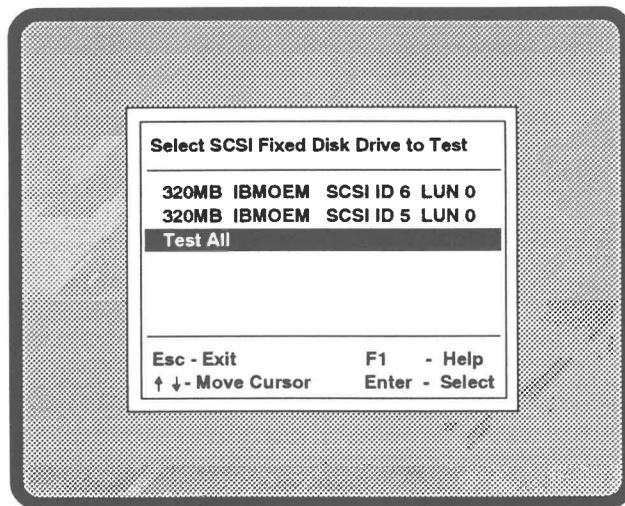

Figure 5-14 SCSI Fixed Disk Selection Menu
1. After the diagnostic constructs the test menu, a selection menu similar to the one shown in Figure 5-14 appears on the display.